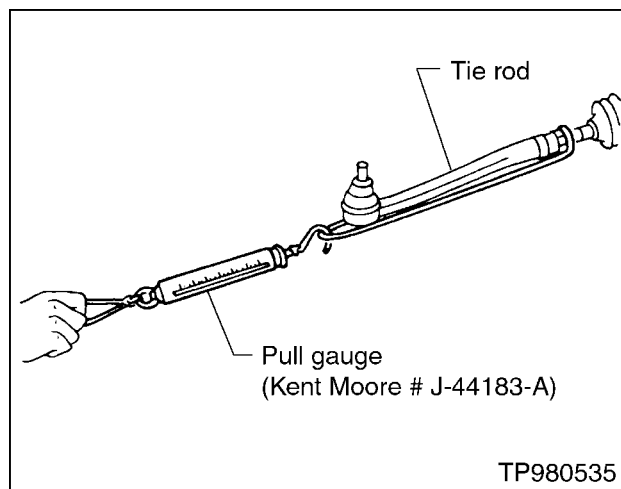

Figure 4
5. Connect a spring scale to one tie-rod (see Figure 4).